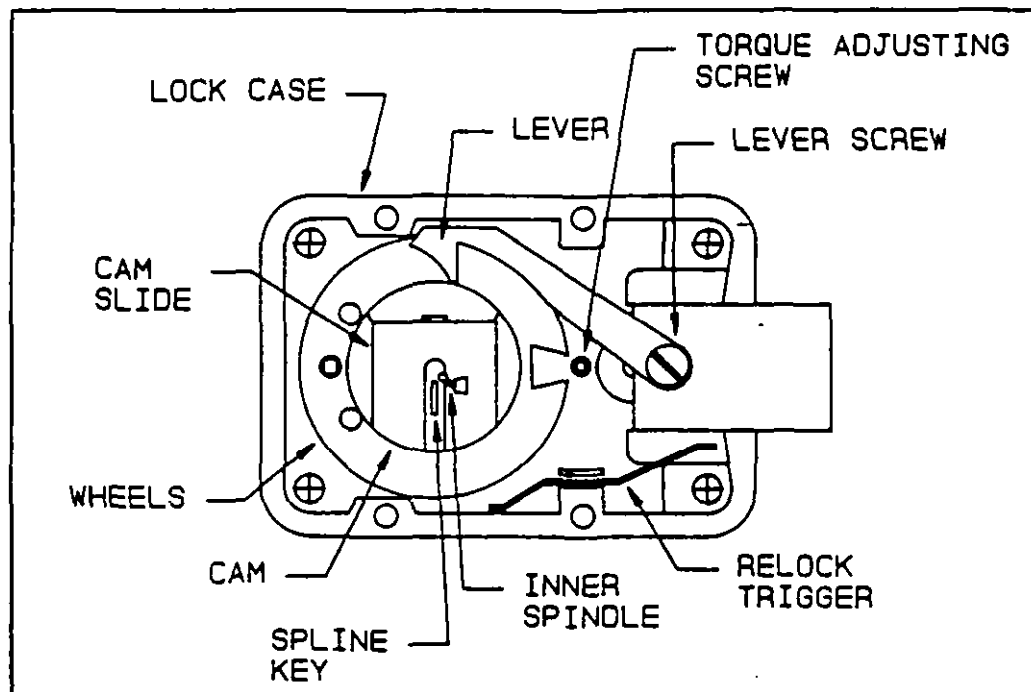

Figure 8
m) Screw the drive cam on spindle until snug, then back off until keyway lines up. Insert the spline key with the key handle pointing away from the center of the cam (see Figure 8). Drive the spline key in carefully. If the spline key becomes loose, the lock will not function properly. Make certain that the spline key is tight.
3.2.2.5 Torque Adjustment. To adjust torque on locks equipped with an adjusting screw, remove the back cover and insert a 3/32-inch allen wrench into the adjusting screw (reference Figure 8). Turn clockwise to tighten or counterclockwise to loosen.